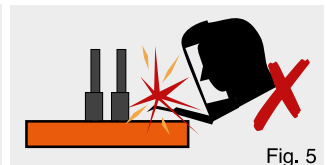

Fig. 5
- Do not use or modify this product for any other purpose than that for which it was designed. (Fig.5)